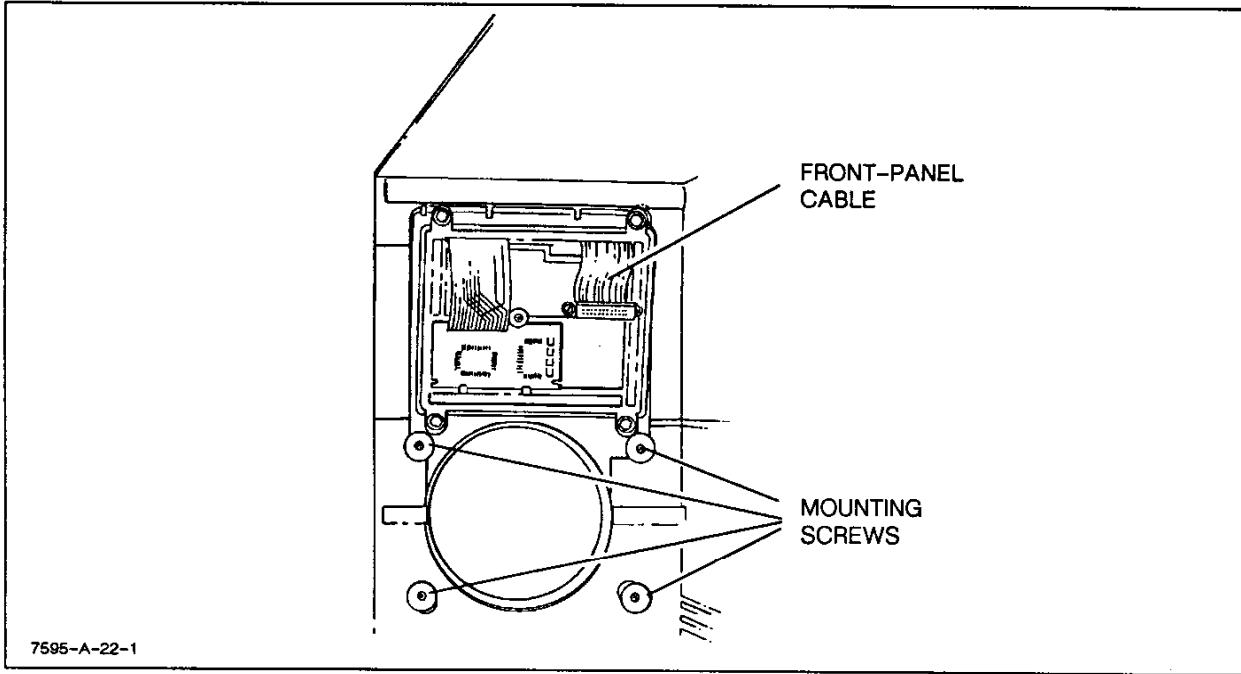
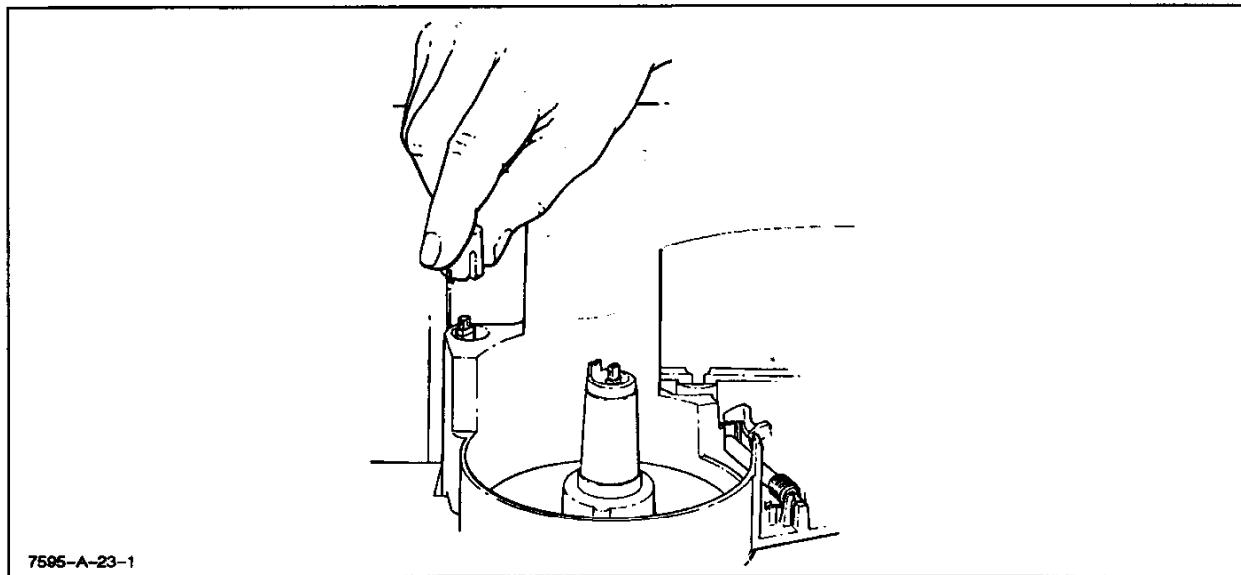
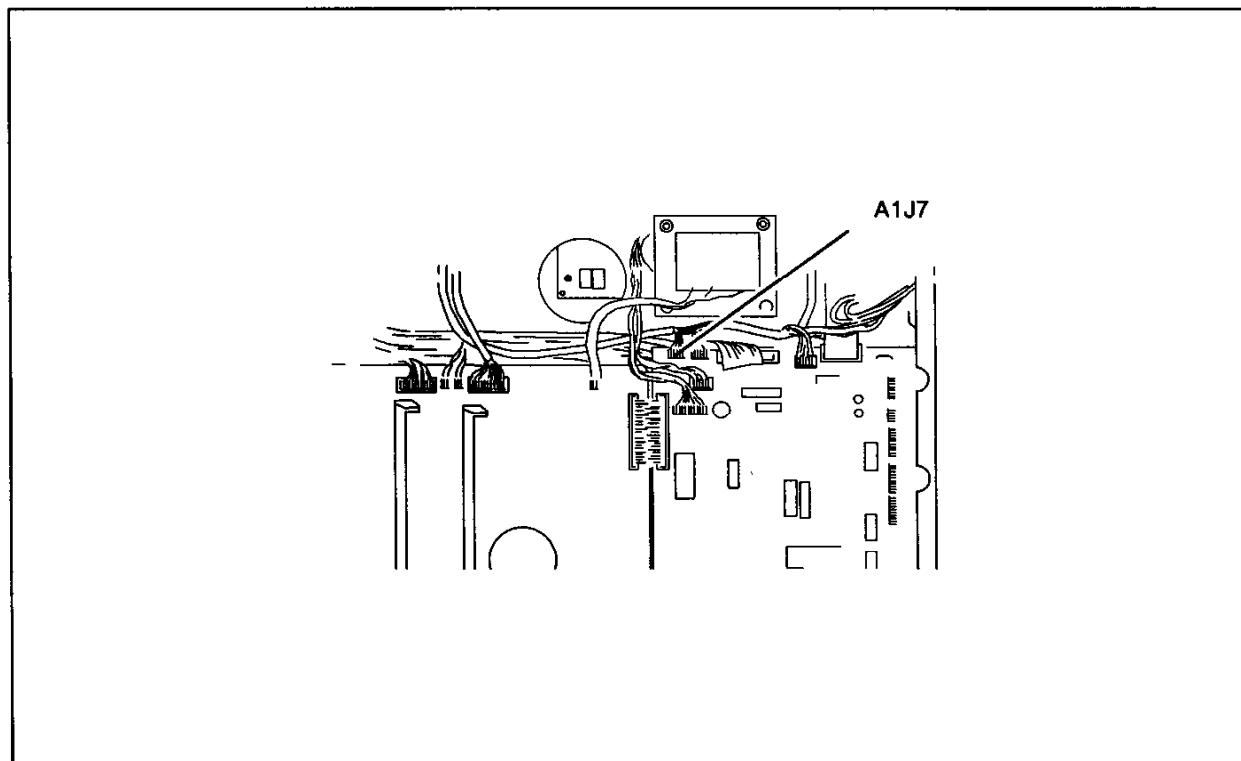

Figure 6-7. Front Panel Removal
Figure 6-8. Photoemitter/Sensor Removal
Figure 6-9. Carousel Motor Removal
- a. Turn the plotter line switch to OFF (O) and disconnect the ac power cord.
- c. Disconnect the Front Panel cable. See Figure 6-7.
c. To access the photoemitter, simultaneously squeeze and lift the photoemitter cap. Note the position of the node on the photoemitter for ease of reassembly. See Figure 6-8.
- d. To access the photosensor, simultaneously squeeze and lift the photosensor cap. See Figure 6-8. Note the position of the flat side of the photosensor for ease of reassembly.
- c. Disconnect the motor connector on J7 of the Processor PCA (A1). See Figure 6-9.